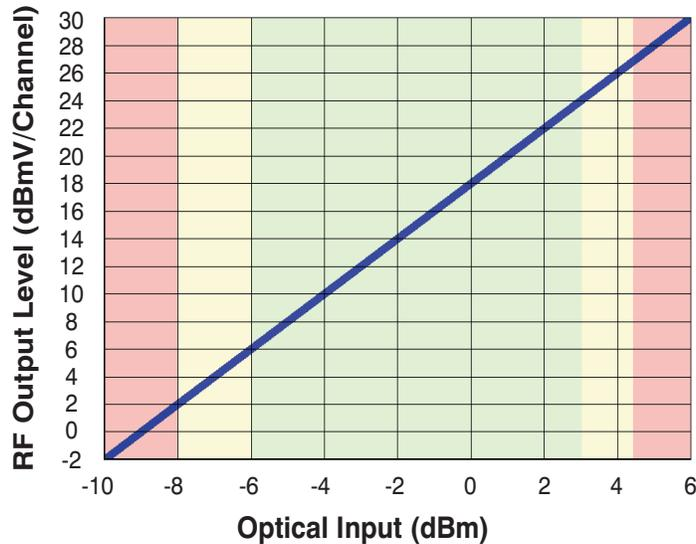

Figure 1.4 RF Output Level Behavior of 2809R
- 4) Figure 1.4 shows the RF output behavior of the 2809 receiver. The blue line shows the nominal Rf output level versus optical input. Over the optical input range from -8 dBm to +4.5 dBm, the RF output level varies by 2 dB for every 1 dB drop in optical input power. Operating below -8 dBm optical input will cause the CNR to degrade rapidly for channel loads of 77 or more.
In Figure 1.4 the central green area is the region that should be used for new designs. So while the receiver is rated to optical input powers as low as -8 dBm, it is recommended that -6 dBm be the minimum for a newly installed system. That leaves 2 dB of margin for the optical power to drop and still provide good operation. The yellow region is the safety band. The unit is rated to operate in this region; however, the margin will probably be inadequate for a newly installed design. The red regions are outside the recommended operating parameters of the 2809R and must be avoided to ensure reliable operation.